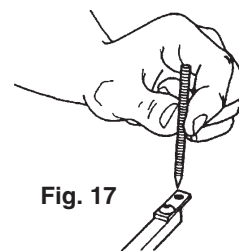

Fig. 17
6. Thread the center pin (4) down through the pivot plate (5), as in Fig. 17.